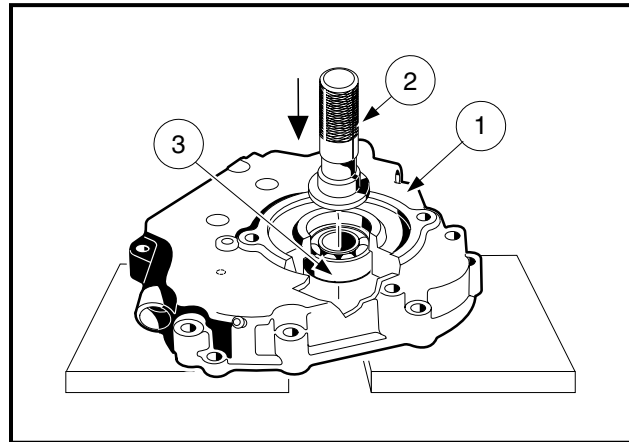

Figure 3-82 Ball Bearing Removal
2. Place the crankcase cover (1) on a bench with its outside up (gasket surface against bench) (**Figure 3-82, Page 3-38**).
3. Use a bearing driver (2) (part of Bearing Driver Kit, CCI P/N 1016416) to drive out the ball bearing (3).